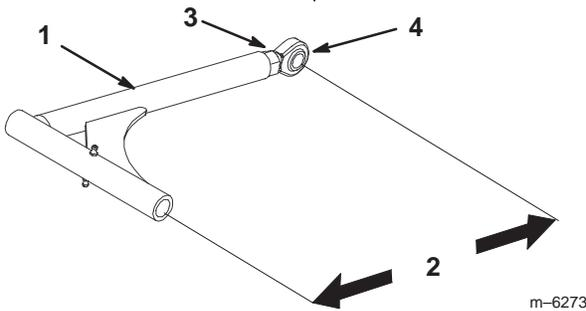

Figure 67
- If the fixed idler contacts the end of the adjustment slot and more belt tension is required, a small change to lengthen the push arms can be made (Fig. 67).